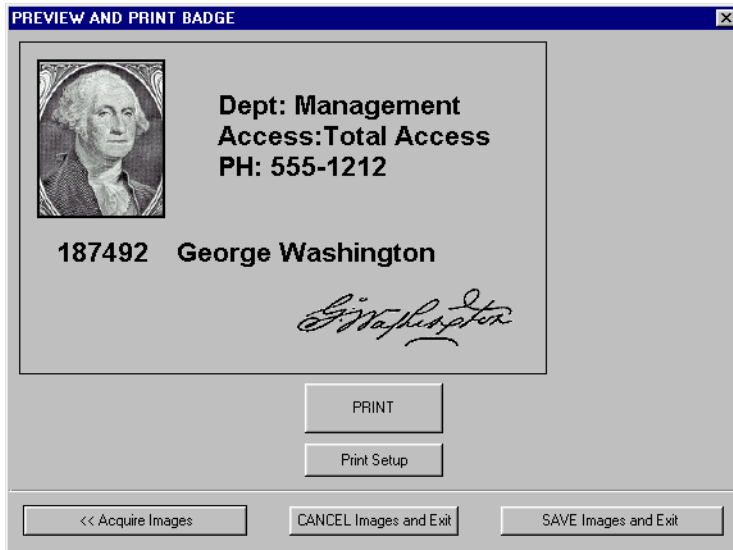
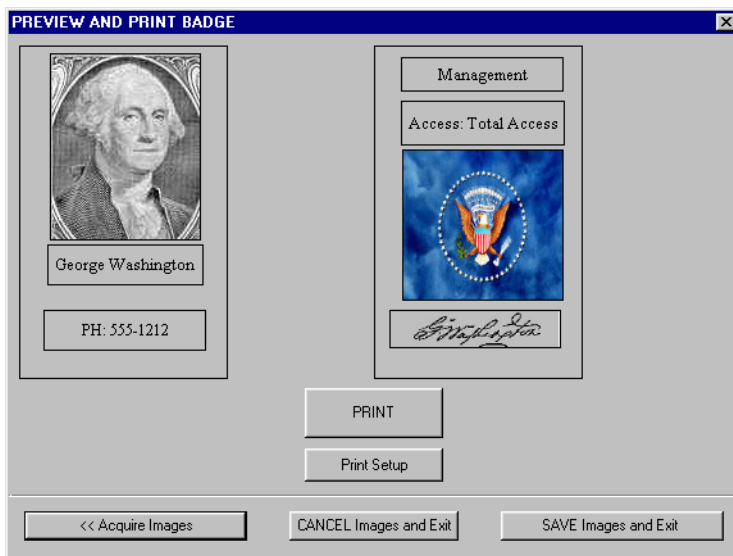

Figure 35: Preview and Print Badge Single-Sided
Figure 36: Preview and Print Badge Double-Sided
1. Click the  button and the Preview and Print Badge window opens and a sample of the badge is displayed (see Figure 35). If the badge is two-sided, the window adjusts its size to display both sides of the badge (see Figure 36).